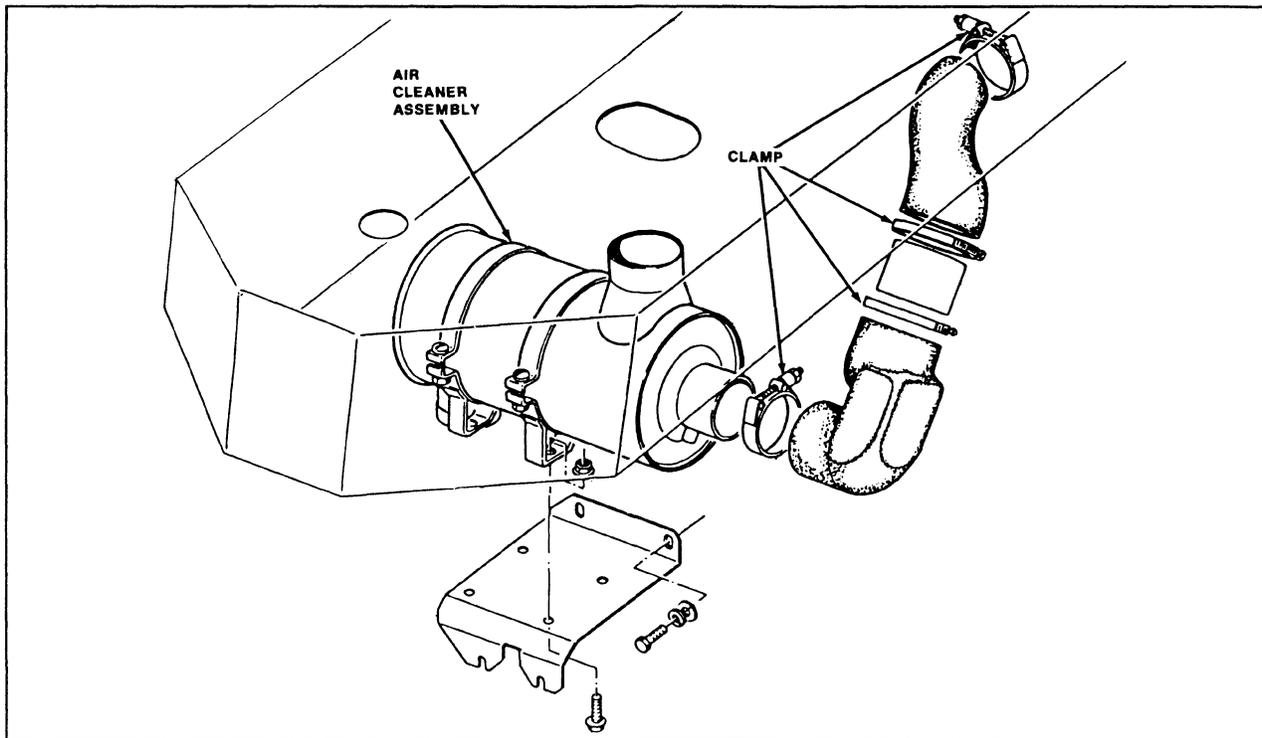

FIGURE 2-5: Air Cleaner Assembly Removal
6. Remove clamp on pipe to air cleaner from turbocharger, and remove air cleaner assembly (Figure 2-5).